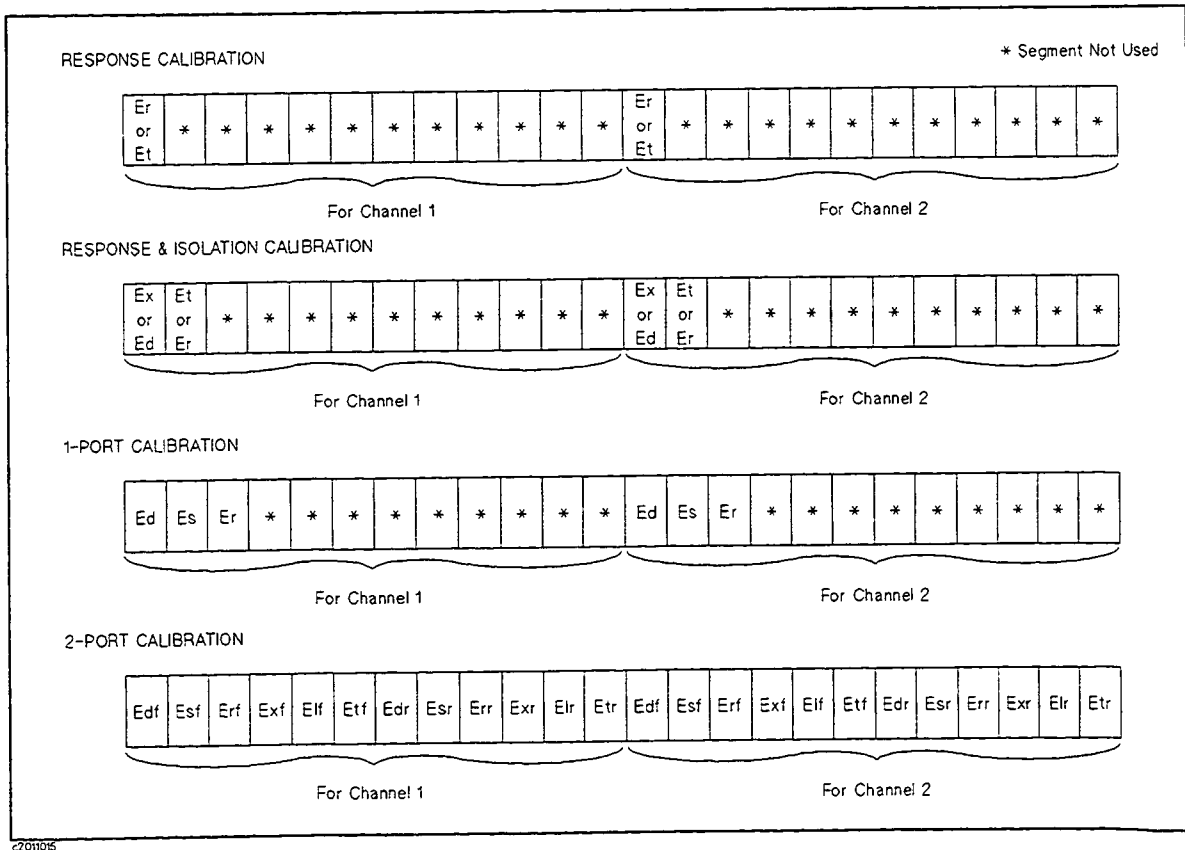

Figure 11-3. CAL Data Group Structure
- *CAL* consists of 24 data segments as shown in Figure 11-3. The first half of the segments are for channel 1, and the second half of the segments are for channel 2. The contents of each segment depends on the type of calibration performed. (Refer to Chapter 7.)